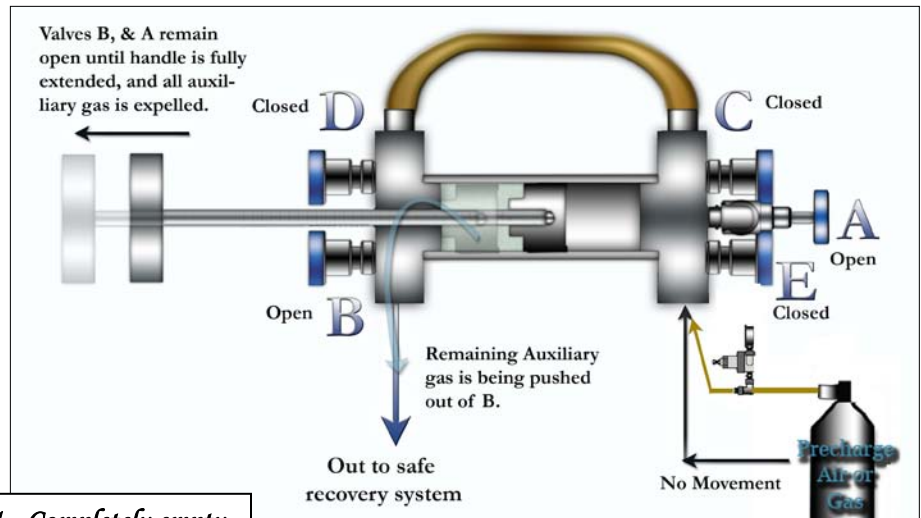

Figure 11 - Completely empty cylinder after Purging.
- To empty cylinder after step 7, do not open purge gas valve "E". Open valves "A" and "B", since there will be no pressure from purge gas you will need to pull handle out. This will purge remaining safe auxiliary gas out of the cylinder. See Figure 11.